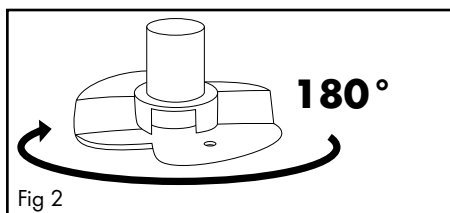
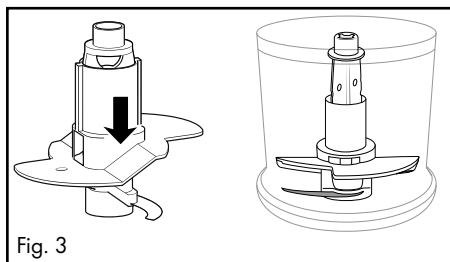

Fig 2
Fig. 3
- For 200 ml of cream, turn the whisk attachment **10** horizontally by 180° (fig. 2), so that it is in contact with only one blade **7** and clicks into place (fig. 3). It then churns higher through the cream: